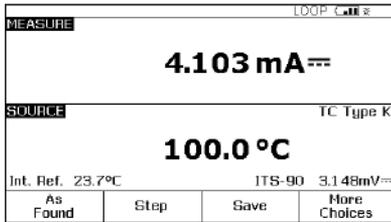

Figure 5.
**Note:** Skip to step 7 if you are measuring current in series using the house loop power source mentioned in step (2).
- Next, depress the "SETUP" button on the DPC. The cursor should begin on loop power. Depress "ENTER," down arrow until the DPC cursor is on Enabled and depress "ENTER." Next depress the "Done" softkey (Figure 5).